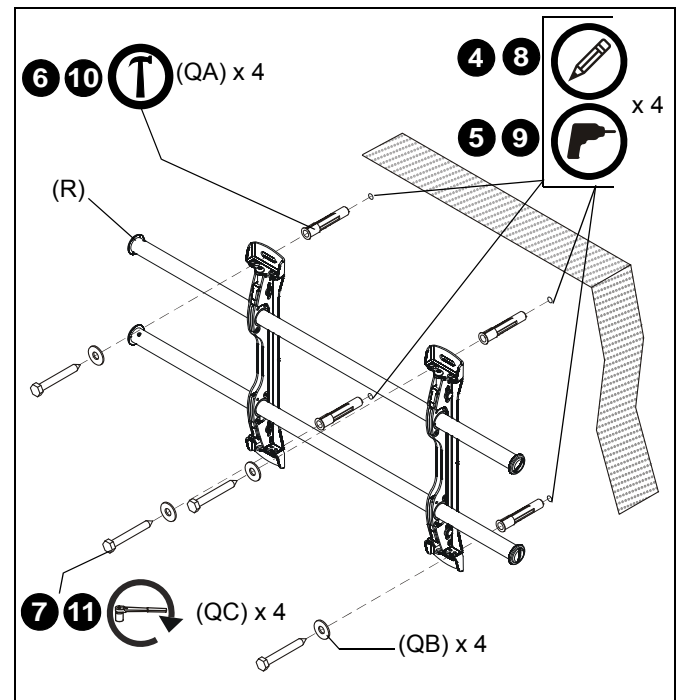

Figure 4
2. Line up the notches on mount (R) with center of screen marking to determine vertical center. (See Figure 4)
3. Measure up 7-1/2" (190.5mm) from the center point to mark location of the upper mounting slots. (See Figure 4)
4. Using a level, mark the wall through both upper mounting slots. (See Figure 4)
6. Install an anchor (QA) into each upper pilot hole using a hammer, making sure that the anchor is flush with the wall.
7. Use two 5/16 x 2-1/2" lag bolts (QC) and two 5/16" flat washers (QB) to attach top of mount (R) to anchors in wall.
8. Mark the attachment points for the lower mounting slots. (See Figure 4)
9. Drill one 3/8" pilot hole at each marking for lower mounting holes. (See Figure 4)
10. Install an anchor (QA) into each lower pilot hole using a hammer. (See Figure 4)
11. Use two 5/16 x 2-1/2" lag bolts (QC) and two 5/16" flat washers (QB) to attach the mount to the wall through the lower mounting holes. (See Figure 4)